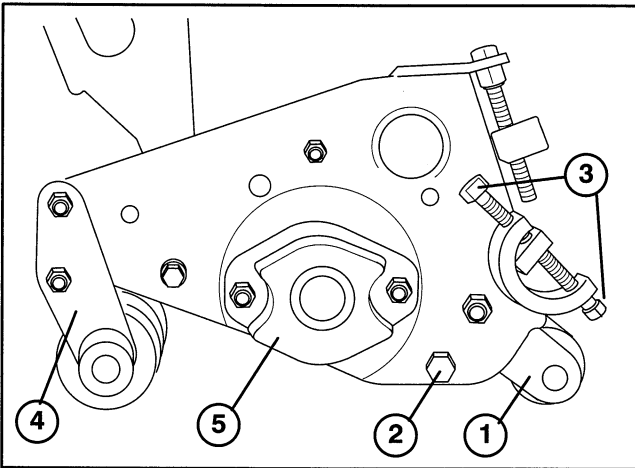

Figure 9
1. Remove capscrew and nut anchoring the rear roller height-of-cut bracket to the side plate on both ends of the cutting unit (Fig. 9).
4. Remove the bedbar mounting bolts from each end of the cutting unit (Fig. 9). Then loosen the bedknife adjusting screws at each end of the cutting unit (Fig. 9). The bedknife assembly can then be removed by rotating it away from the reel.
1. Remove the locknuts securing the front roller brackets to the sideplates at both ends of the cutting unit (Fig. 9).
A. Remove the mounting nuts from the counterbalance end cap and remove end cap from the mounting studs (Fig. 9).
2. Remove counterbalance End Cap (Fig. 9).